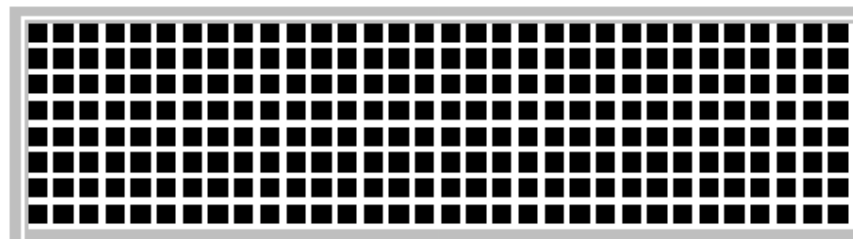

Fig 11-5
- Dot Matrix Mode. To simulate dot matrix type LCD panels. Fig 11-5 shows the dot matrix screen.